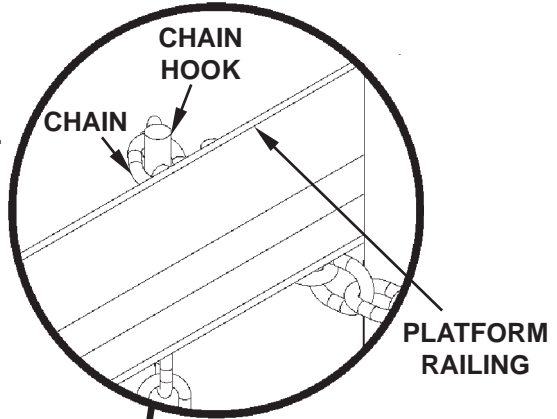

FIG. 17-1B
1. Place all loads as close as possible to the inboard edge of the platform with heaviest part toward the truck body as shown in FIG. 17-1A. Make sure load rests against railing (FIG. 17-1B) and angle support (FIG. 17-1C).
2. Wrap chain around each gas bottle as shown in FIG. 17-1A and hook chain to platform railing as shown in FIG. 17-1B.